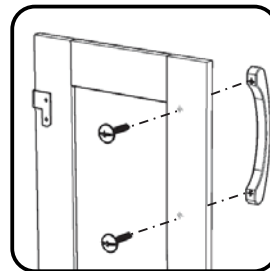

Figure 7
Attach Handles to Doors (O) and (P) with Machine Screws. (See Figure 7)